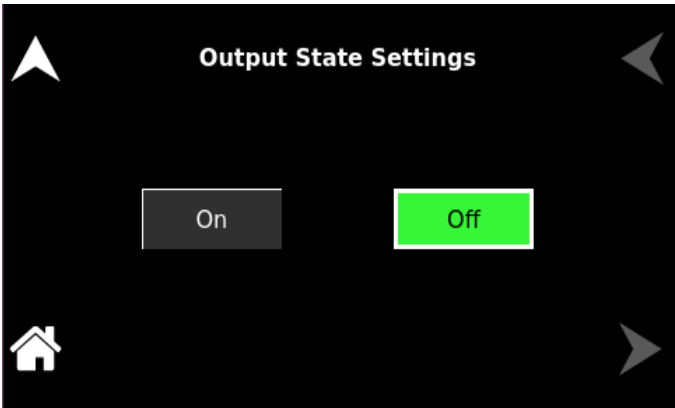

Figure 11-26. Output State Settings
**Output State**      Users can program the output to ON or OFF state. Refer to Figure 11-26.